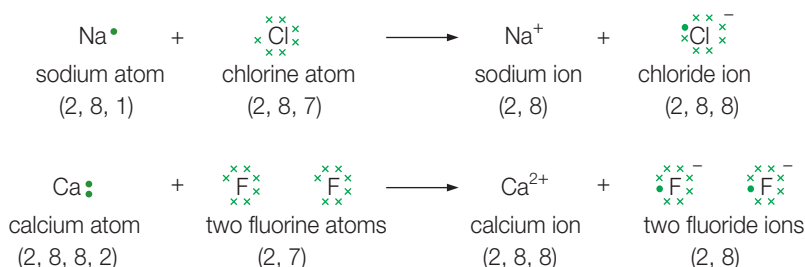

Figure 13.3◀
Very often it is sufficient to show simply the outer shell electrons in dot-and-cross diagrams and two of these simplified diagrams are shown in Figure 13.3.
- 1 Draw dot-and-cross diagrams, similar to those in Figure 13.3, for: